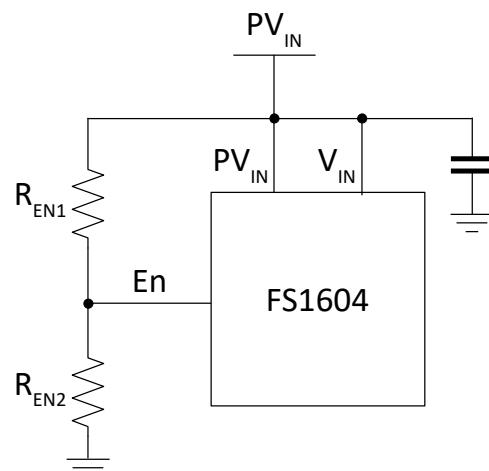
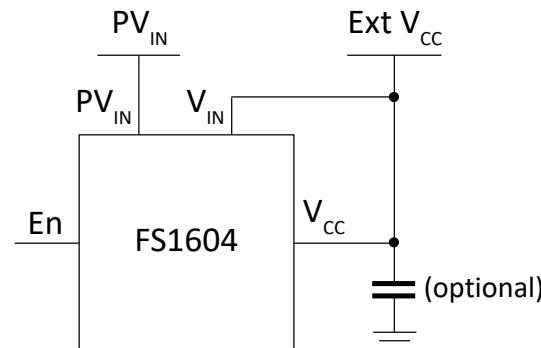

Figure 6 Single supply configuration: internal LDO regulator, adjustable P_{V_{IN}}_UVLO
Figure 7 Using an external bias voltage
The FS1604 has an integrated Low Drop-Out (LDO) regulator, providing the DC bias voltage for the internal circuitry. The typical LDO regulator output voltage is 5.2V. For internally biased single-rail operation, the V_{IN} pin should be connected to the P_{V_{IN}} pin (Figure 6). If an external bias voltage is used, the V_{IN} pin should be connected to the V_{CC} pin to bypass the internal LDO regulator (Figure 7).
- It can be used to implement a precise input voltage UVLO. The input of the En pin is derived from the PV_{IN} voltage by a set of resistive dividers, R_{EN1} and R_{EN2} (Figure 6). Users can program the UVLO threshold voltage by selecting different ratios. This is a useful feature that stops the FS1604 regulating when PV_{IN} is lower than the desired voltage.